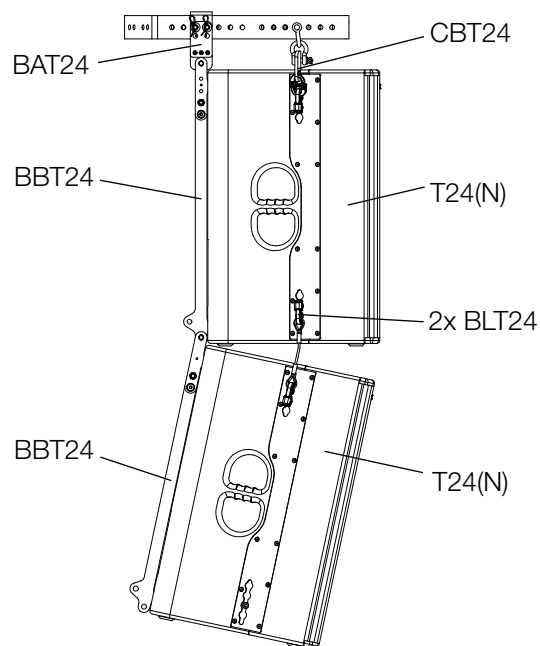

Figure 4.12 - Standard variant
The standard variant has established itself in which two T24(N) loudspeakers are used with two BBT24 brackets, a CBT24 cradle bar for flying and a BAT24 adapter. (See figure 4.12)